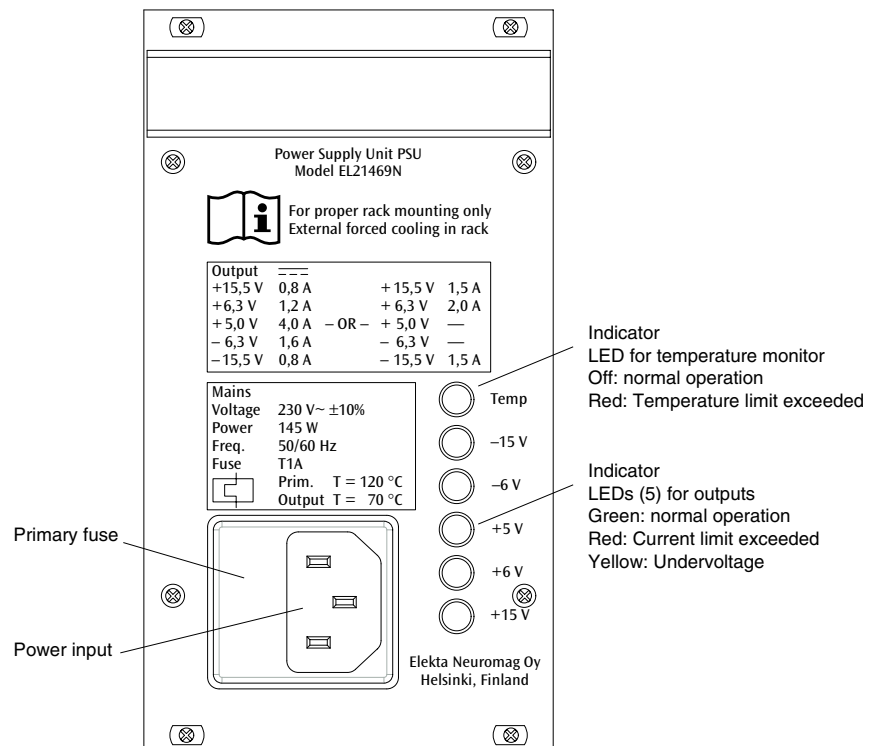

Figure 6.3. Back panel of a main electronic power supply unit.
4. Switch on the Main (DSP) electronics from the mains control panel. Wait until all electronics boards show steady green “run” lights and the “fail” lights are off. Boot-up takes about 30–60 seconds. If the bootup fails, open the back door of the main electronics cabinet and check the indicator LEDs of individual power supplies (see Fig. 6.3).
NOTE! individual main electronics power supply units will not start up if any of their indicator LEDs on the back (see Fig. 6.3) is lit. This may happen if a powerup is made immediately following power-down of the unit.
All mains (primary) circuits of the power supply units are fused. All fuses are accessible at the back planes of the power supply units with the correct values of the fuses marked in the immediate vicinity, for details see Figs. 6.3 and 6.4. A “T” before the rated current in amperes indicates slow (time-lag) type and an “F” fast type. If no type has been indicated, use fast type fuses. Main electronic power supply units have a spare fuse in the fuse holder.
Each main electronics board (MEG and EEG) has a recessed reset switch on its front panel. If the board becomes locked up (e.g. showing red fail light or it stops responding to commands) press reset switch. Boot-up of the boards starts automatically. Wait until the board shows steady green “run” lights and the “fail” lights are off. Boot-up takes about 30–60 seconds. If the bootup fails, open the back door of the main electronics cabinet and check the indicator LEDs of individual power supplies (see Fig. 6.3).